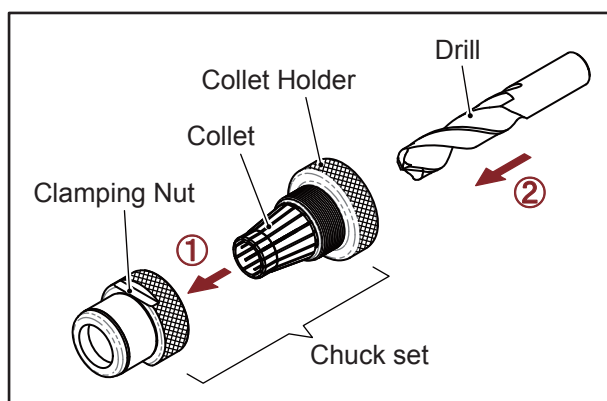
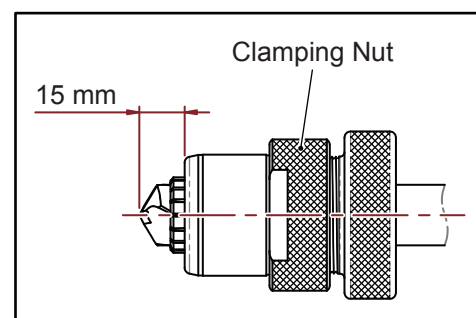

Fig. 6-2
Fig. 6-3
3. Screw in a little bit by clamping nut (Fig. 6-2 step ①), then insert the drill through the collet holder (Fig. 6-2 step ②), and push in until the drill is out of the clamping nut about 15 mm. (Fig. 6-3)